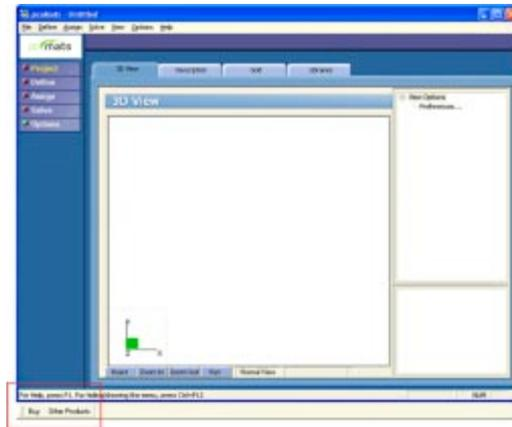

Figure 1-12 — Application in Evaluation Mode.
This is the default mode of the license. In this licensing scheme, users are granted limited rights to use our full-featured software. Only visible difference between an Evaluation version and a Licensed version is the additional bottom toolbar in the Evaluation version (Figure 1-12). By default, pcaStructurePoint software applications come with 15 days and 30 executions restrictions. That means, from the day of installation, a user can evaluate the software for the next 15 days. Total number of software executions is 30. After 30 uses or after 15 days (whichever comes first), the evaluation mode will be disabled. At that point, user will either obtain a License, or uninstall the application.
2. When running the application in Evaluation mode. Select the BUY button in the bottom left Toolbar (Figure 1-12).